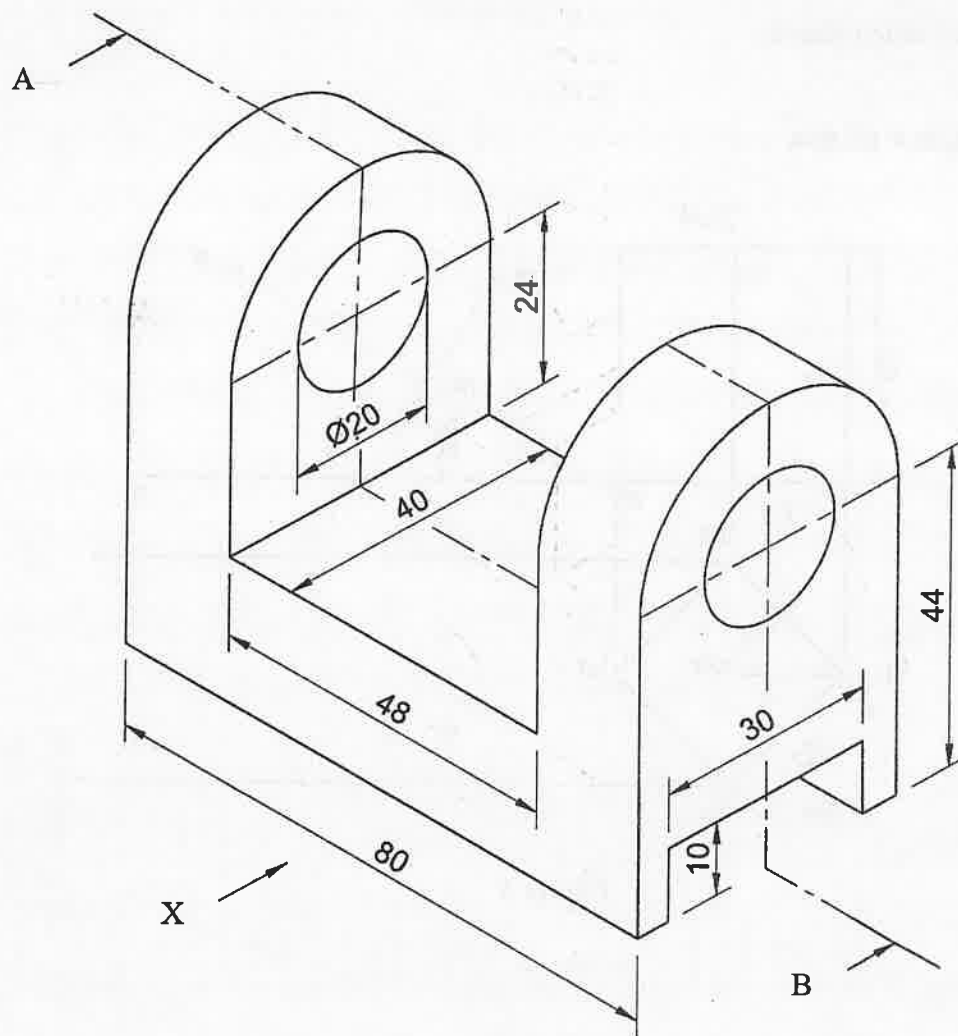

Figure 4
- (ii) **Figure 4** given below shows the machine block. Draw Sectional Front View [20]